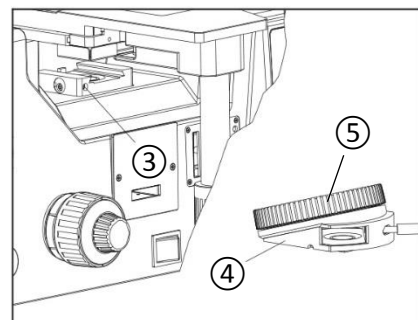

Fig. 3
**NOTE:** Always rotate the nosepiece by using the knurled nosepiece ring ⑤ (Fig 3).